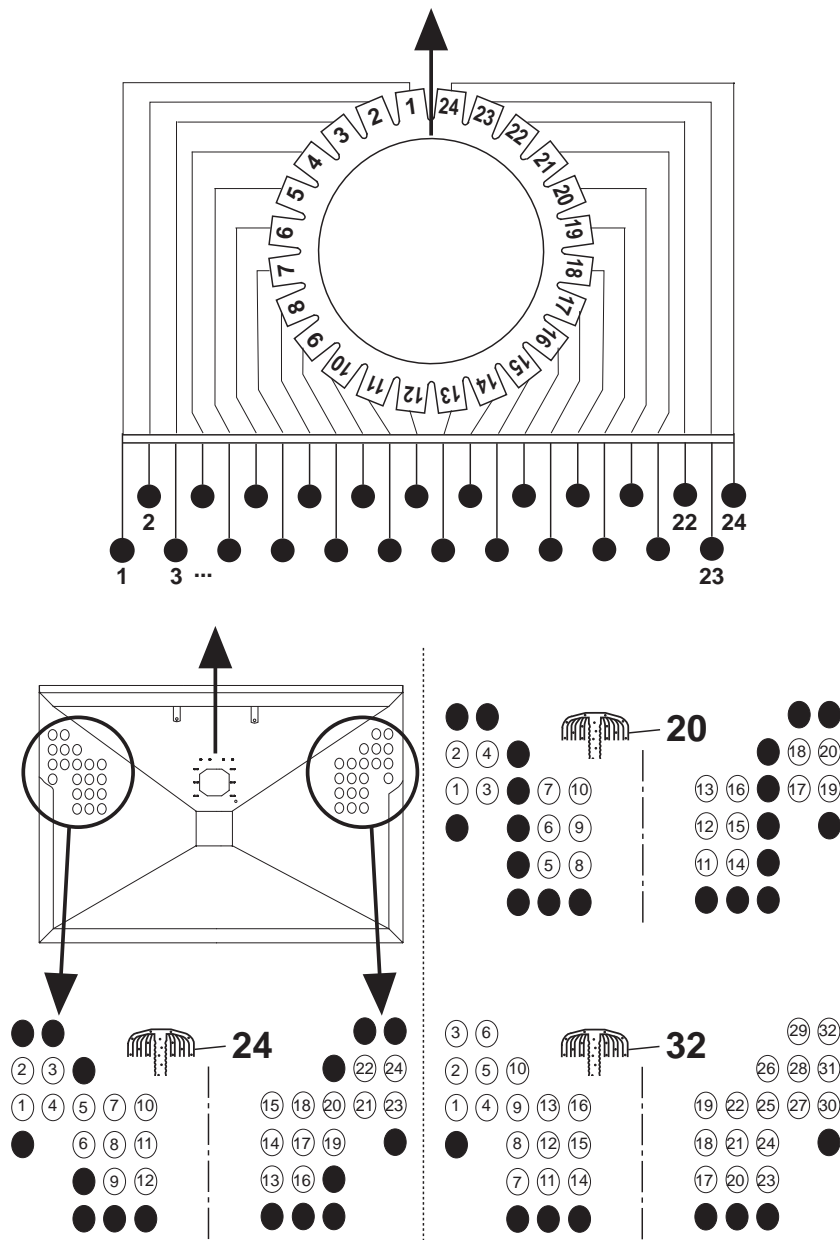

Fig. 8-2 Arrangement of the hoses: on a distributor for 24 coulters (top diagram);
Each hose is allocated a hole in the seed hopper and a connection piece on the distributor (see fig. 8-2). Follow this diagram when inserting the hoses in order to prevent clogging and to get an even seed distribution.
2. According to the relevant seed coulters pass one end of the hose through the rubber grommet in the seed hopper (see fig. 8-2).
3. Expand the end of the hose. Insert it in the distributor outlet (see fig. 8-2) and secure it with a hose clip.